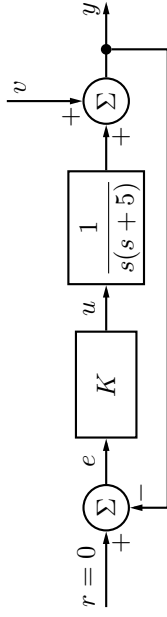

Figure 6.6a
6.6 Consider the control system in Figure 6.6a.